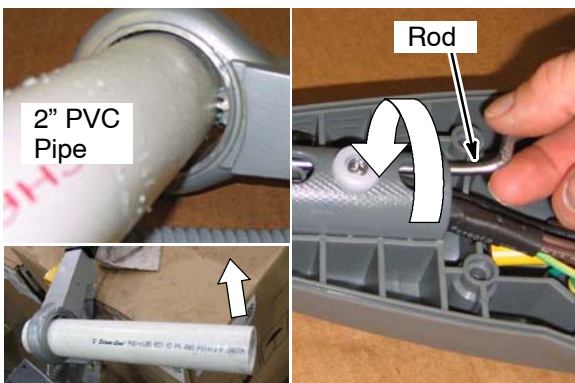

Fig. 14
5. Using a piece of 2 inch PVC pipe, depress the plunger completely into the hole and turn the rod clockwise until properly threaded (Figure 14).